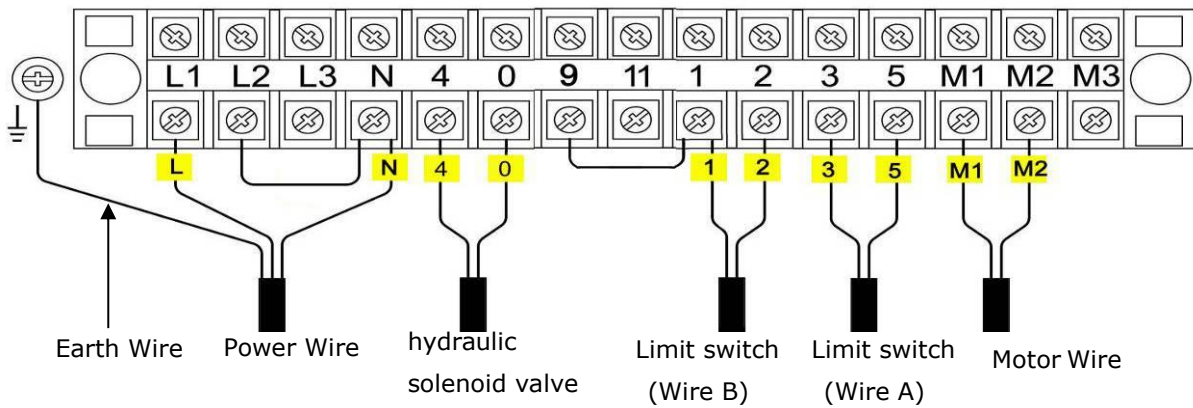

Fig. 12
1.1 Connect the power wire and limit switch wire according to the wiring diagram (See **Fig. 12**).